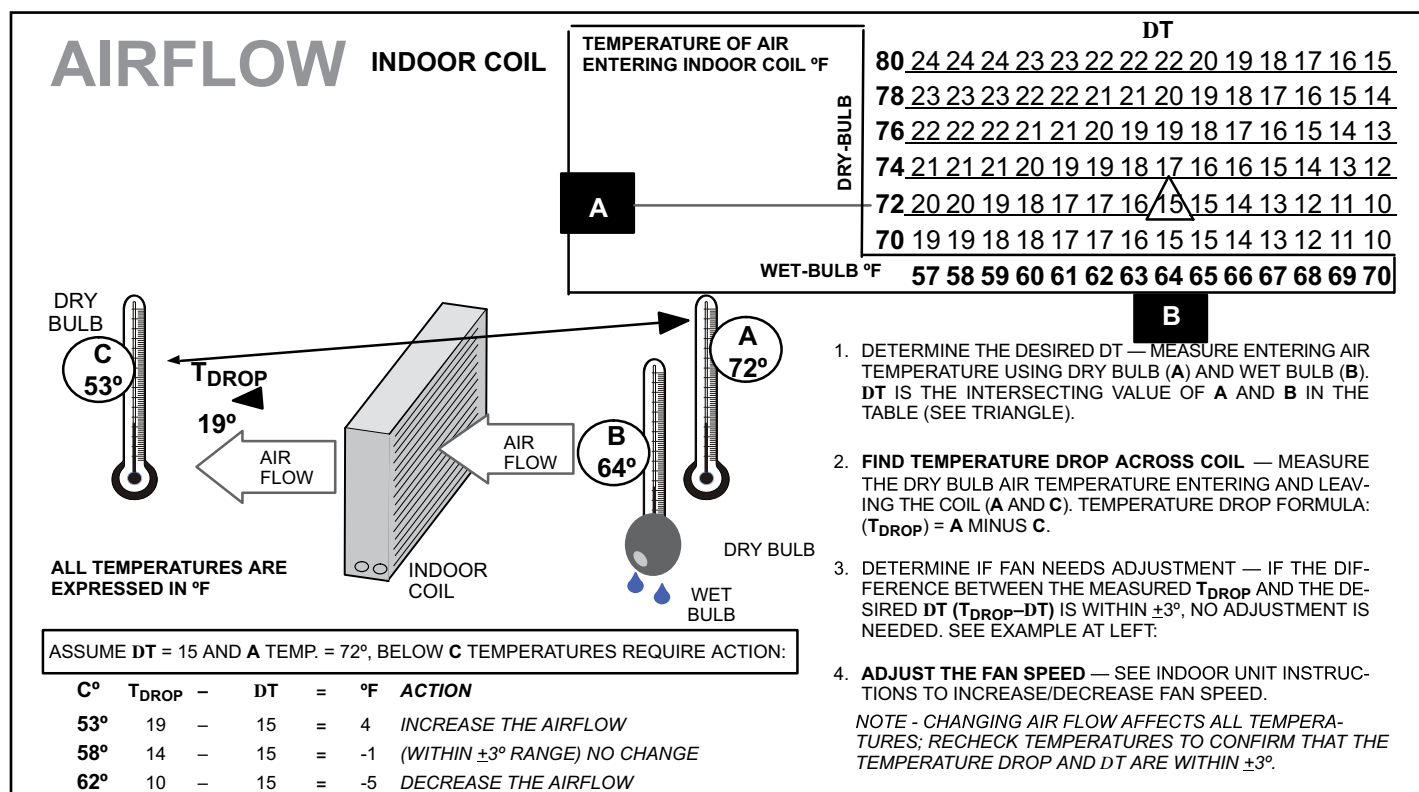

Figure 19. Checking Indoor Airflow over Evaporator Coil using Delta-T Chart
This system uses R-454B which operates at slightly lower pressures than HFC-410A. The field-installed liquid line filter drier is approved for use with R-454B. Do not replace any components designed for use with HCFC-22. Check airflow using the Delta-T (DT) process using the illustration in figure 19.